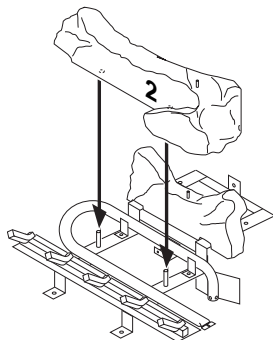

Figure 41 - Installing Log No. 2
2. Rest log #2 (large front log) on the pins on the front part of the grate (see Figure 41).